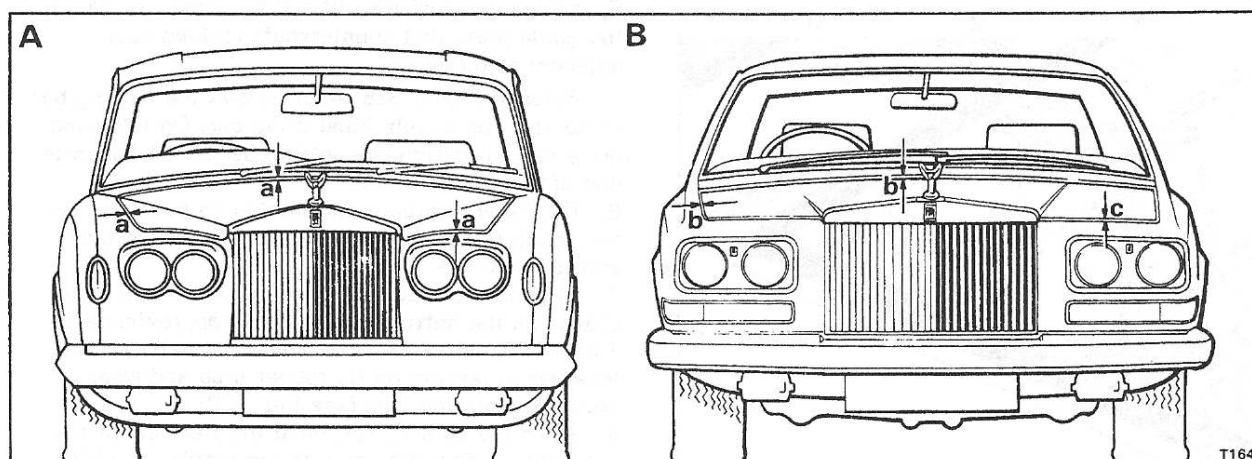

Fig. S26 Bonnet clearances
2. After fitting the bonnet, check the bonnet to body clearances (see Fig. S26). If necessary, slacken the securing bolts and move the bonnet until the correct clearances are obtained, then
1. Before fully tightening the setscrews securing the bonnet to the hinges ensure that the bonnet to body clearances are satisfactory (see Fig. S26). Also ensure that the bonnet will open and close satisfactorily (see Bonnet - To fit).